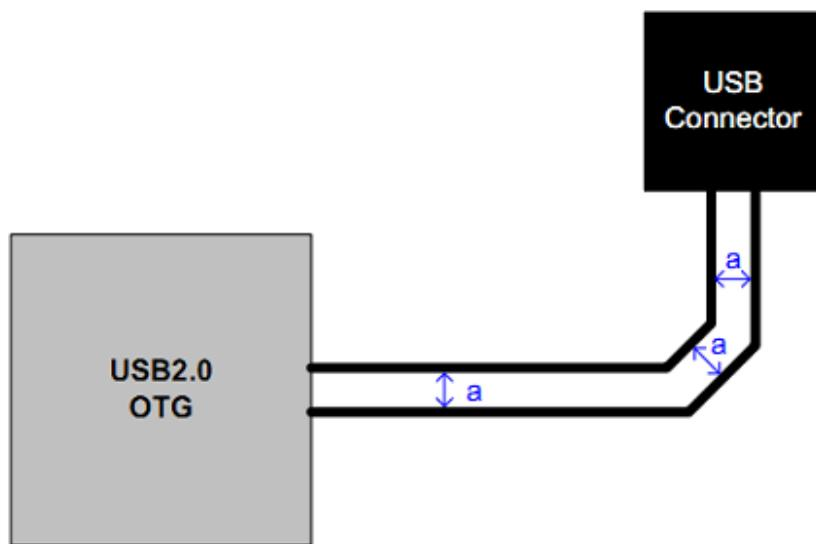

Figure 11-3
- The USB signal traces must strictly follow the requirements of differential pair rules. Using arc or obtuse angle at the corners of traces as much as possible, right-angle or acute angle is unallowable, and the impedance requirement  $Z=90\pm10\text{ohm}$ , shown as Figure 11-3;